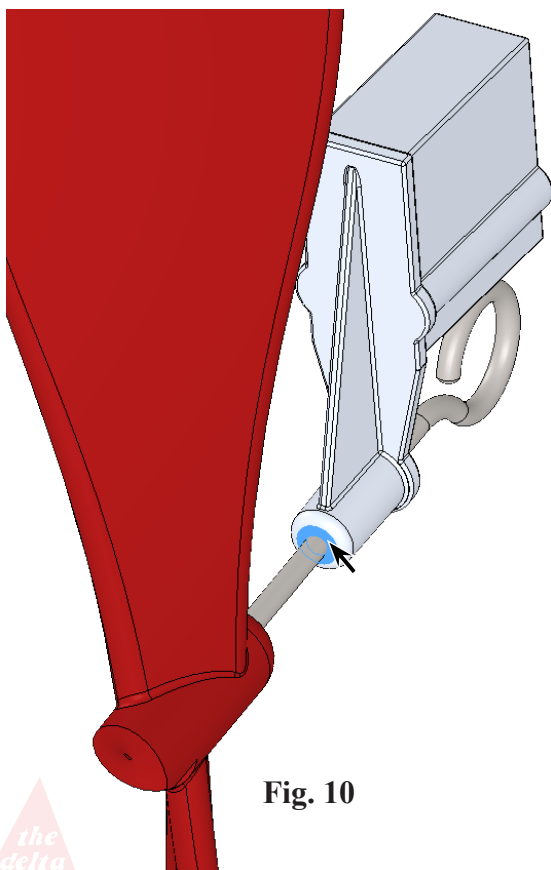

Fig. 10
Step 3. Click the **front face of Socket hub**, Fig. 10.